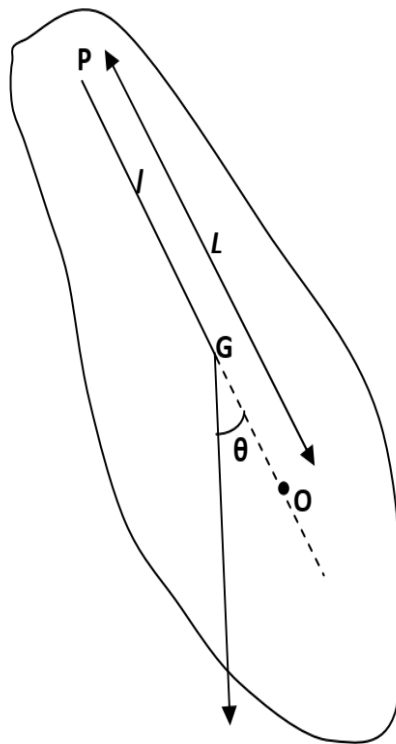

Figure-1
This is the length of “equivalent simple pendulum”. If all the mass of the body were concentrated at a point O (See Figure-1) such that $OP = \frac{k^2}{l} + l$, we would have a simple pendulum with the same time period. The point O is called the ‘Centre of Oscillation’. Now from Eq. (9)
Thus both l_1 and l_2 are positive. This means that on one side of C.G there are two positions of the center of suspension about which the time periods are the same. Similarly, there will be a pair of positions of the center of suspension on the other side of the C.G about which the time periods will be the same. Thus there are four positions of the centers of suspension, two on either side of the C.G, about which the time periods of the pendulum would be the same. The distance between two such positions of the centers of suspension, asymmetrically located on either side of C.G, is the length L of the simple equivalent pendulum. Thus, if the body was supported on a parallel axis through the point O (see Figure-1), it would oscillate with the same time period T as when supported at P. Now it is evident that on either side of G, there are infinite numbers of such pair of points satisfying Eq. (11). If the body is supported by an axis through G, the time period of oscillation would be infinite. From any other axis in